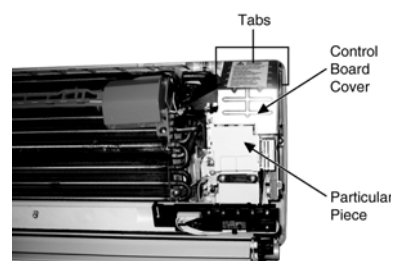

Fig. 2
- Unhook the tabs at the Control Board to remove the Control Board Cover. (Fig. 2)
- Unhook the tabs at the Control Board to remove the Control Board Cover. (Fig 2)
- Release the Particular Piece. (Fig. 2)